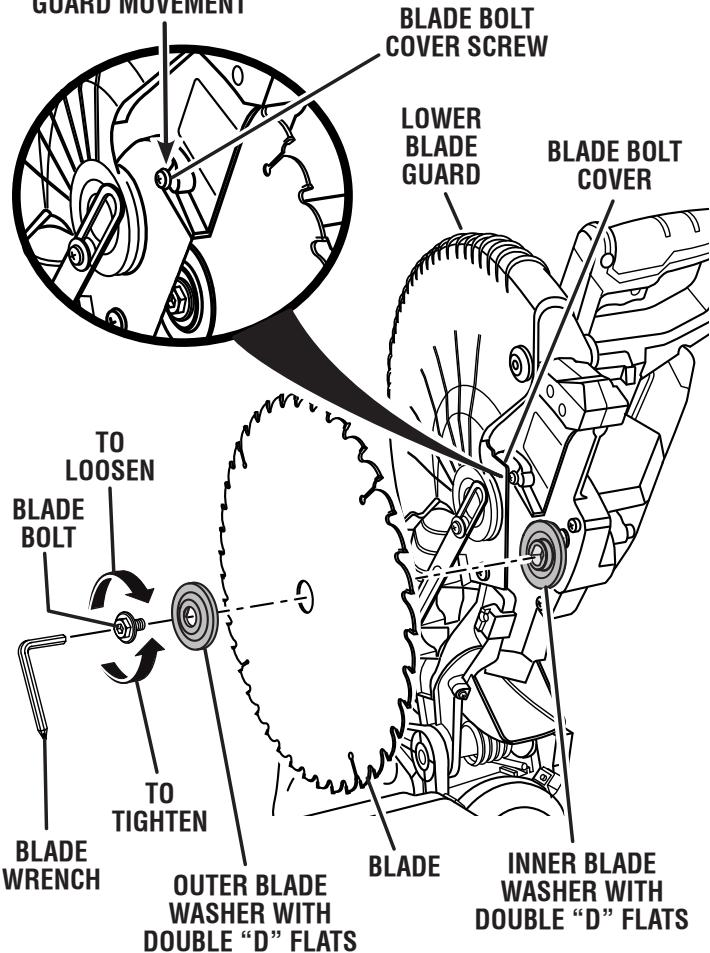

Fig. 13
See Figures 13 - 14.
- Fit saw blade inside upper blade guard and onto shoulder of inner washer. The blade teeth point downward at the front of saw as shown in figure 13.